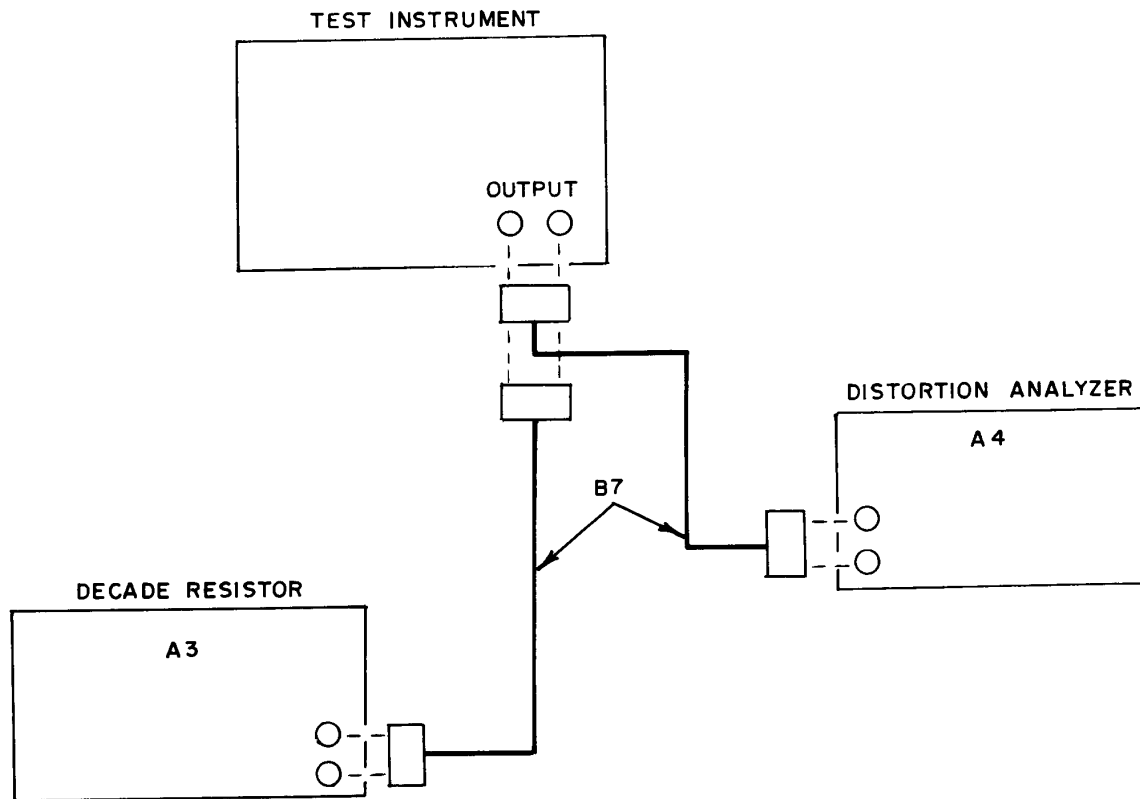

Figure 9. Distortion check - equipment setup.
- (1) Connect equipment as shown in figure 9.
- (2) Position TI controls as listed in (a) through (f) below:
- (3) Adjust decade resistor (A3) dials to 22 ohms.